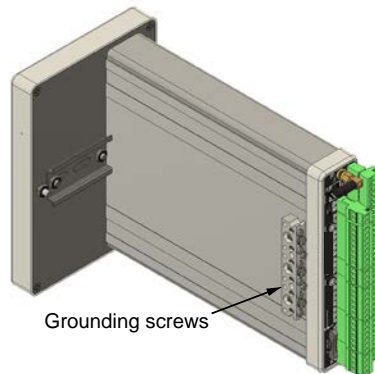

Figure 3.2 - External ground screw locations
- b. If the device is externally powered, route the protective earth grounding conductor to the enclosure with the incoming power conductors and terminate it to a screw on the side of the enclosure (Figure 3.2).